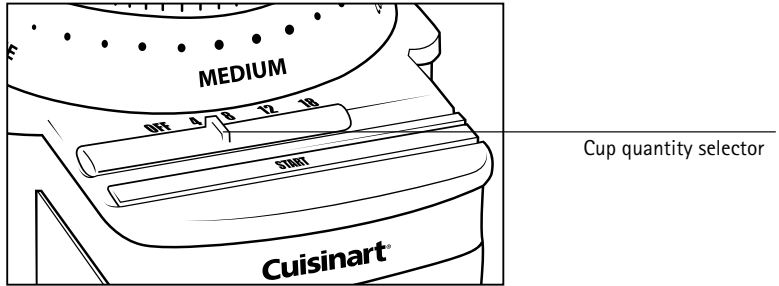

Figure 3
- Slide the cup quantity selector to the desired number of cups, between 4 and 18. (see figure 3).